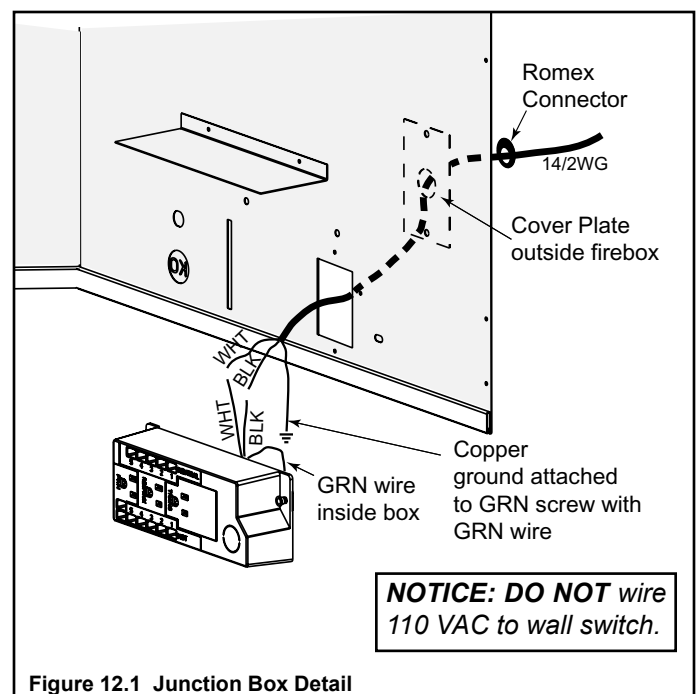

Figure 12.1 Junction Box Detail
- Remove the cover plate located on the outer shell - right side (see Figure 12.1).